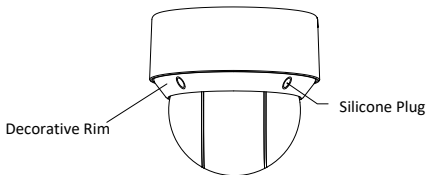

Figure 2-11 Remove the Silicone Plugs
1. Remove the four silicone plugs on the decorative rim as shown in Figure 2-11, and you can see four flange screws in the decorative rim.